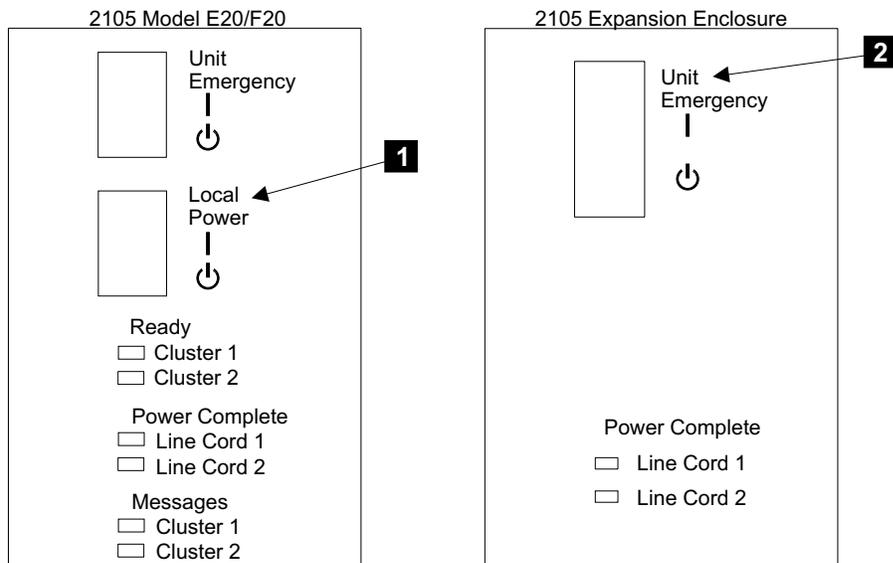

Figure 292. 2105 Expansion Enclosure Operator Panel Locations (S008816m)
- ___ 14. On the 2105 Expansion Enclosure operator panel, set the Unit Emergency switch, **2** in Figure 292 on page 296, to On (up).
5. On the 2105 Expansion Enclosure operator panel, set the Unit Emergency switch **2**, in Figure 292, to On (up).
6. On the 2105 Model E20/F20 operator panel, set the Local Power switch **1**, in Figure 292, to On (up), then release it. You may have to wait up to four minutes for the final state of the Power Complete, Line Cord indicators (indicators stop blinking and remain on).